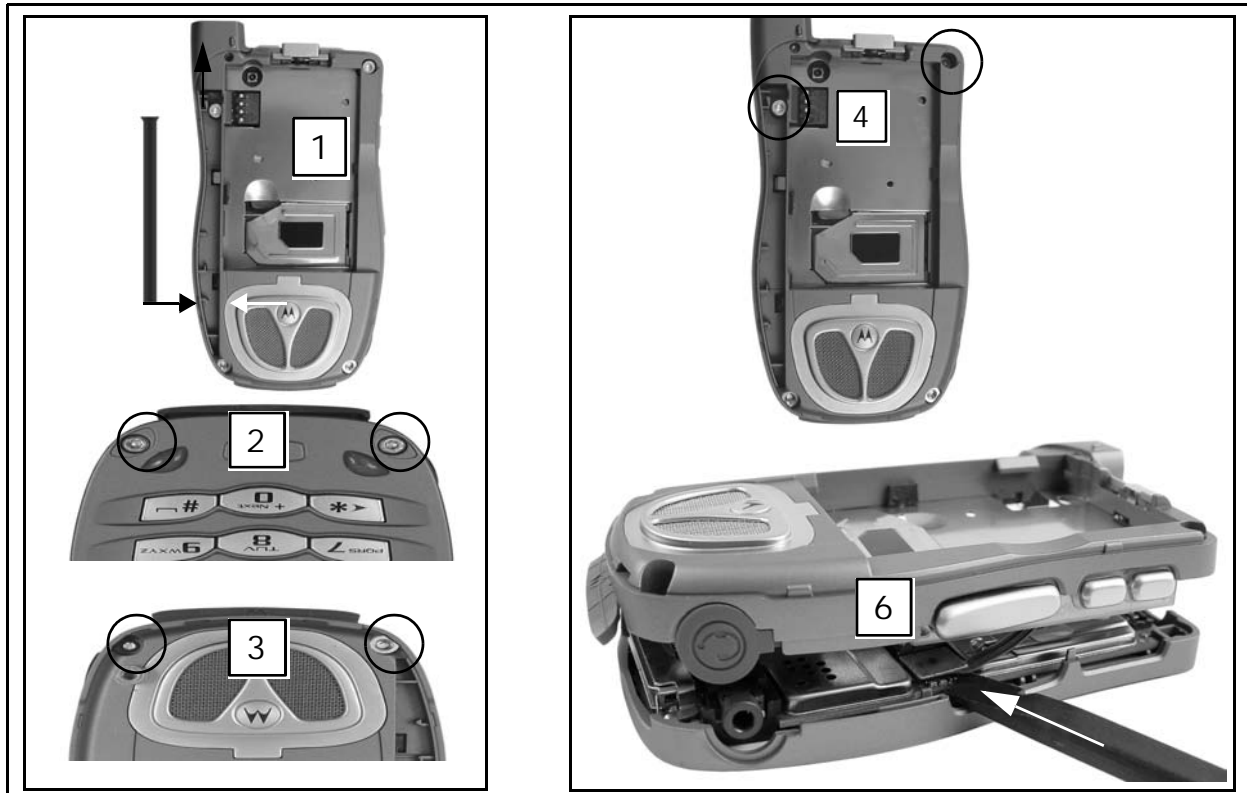

Figure 7-11.
1. Remove antenna metal tube by wedging out with flat end of black stick. Note orientation of metal tube's fluted end towards top of unit. Bottom of tube rests on small stop (see Figure 7-11).